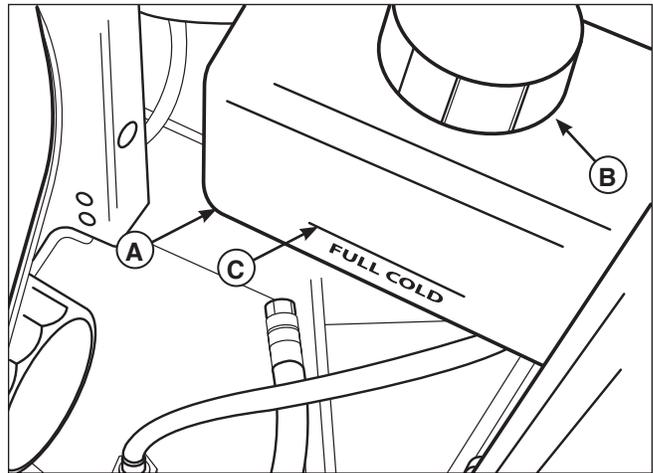

Figure 24. Checking Hydraulic Oil Level
1. Locate the transmission oil tanks (A, Figure 24).
2. Check the oil level when the unit is cold. The oil should be up to the "FULL COLD" mark (B) on the transmission oil tanks. If the oil is below this level, proceed to step 3.
3. Before removing the tank cap (C), make sure the area around the tank cap and fill neck of the tank is free of dust, dirt and other debris. Remove the tank caps.